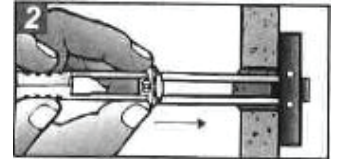

Figure 3.2
3.2 With one hand, pull rign so metal channel rests flush behind the cab shell. Slide plastic cap with other hand until flange of cap is flush with wall panel as shown in **Figure 3.2**.